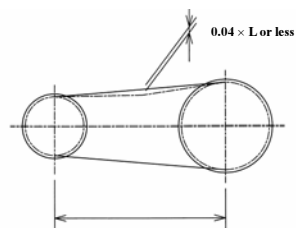

Fig. 1 Sag of chain
- (2) Adjust the sag of the chain to approximately 4% of the span length (refer to Fig. 1). If the sag is too large, starting the motor may cause a large shock, and the geared motor may be damaged.
- (3) To protect the motor from damage caused by an overhung load, adjust the sprocket, gear, and pulley positions so that the load position can be on the output shaft joggling side.
- (4) The tolerance for the sprocket and coupling holes should be approximately H7. When inserting a part into a hole, do not hit the part using a hammer. If a part is hit with a strong force, bearings and gears cannot be engaged properly.